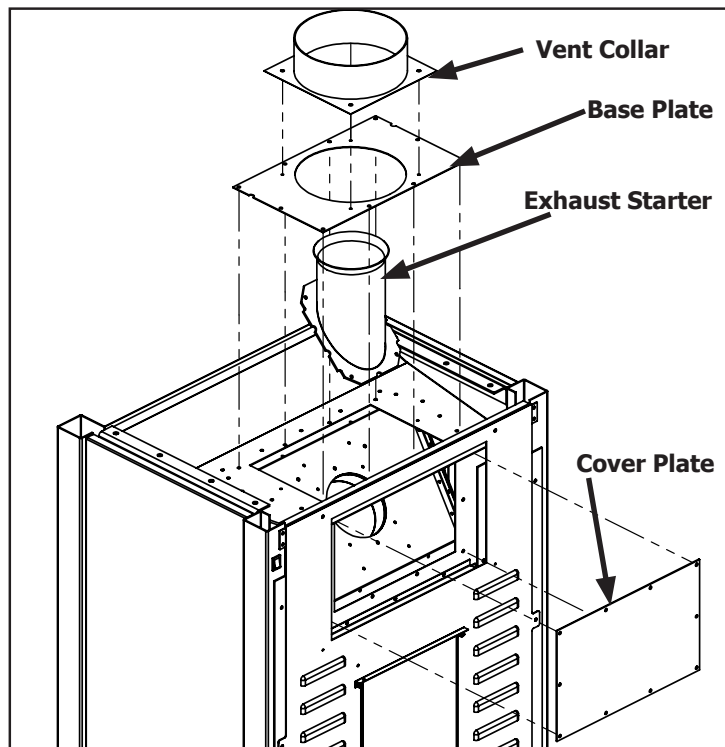

Figure 24. Vent Conversion - Step 2
**Step 2:** Next, remove the vent collar, base plate, cover plate and exhaust spigot (28 screws total) as shown in Figure 24.